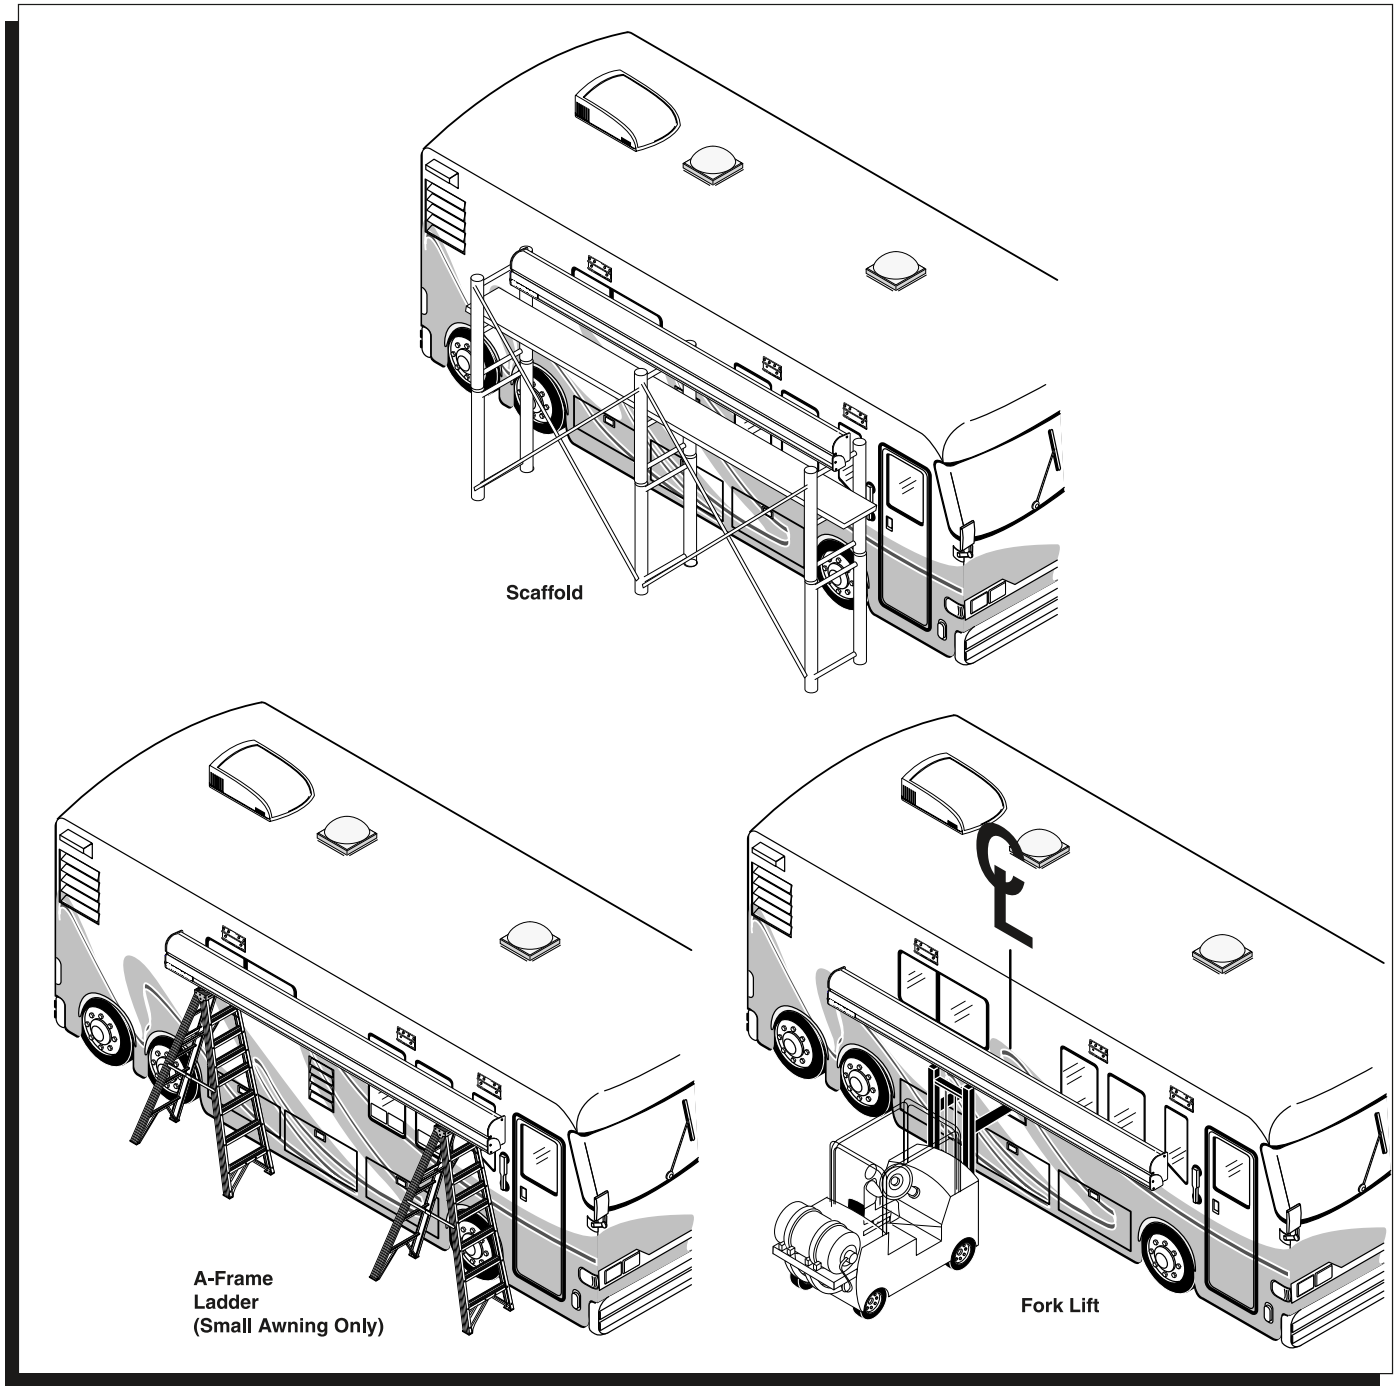

FIGURE 24
- a. While ladders are generally sufficient, you may use a scaffold or a forklift to raise awning into position (Fig. 24).
- b. If using forklift, lift from center line of awning (“CL” on Fig. 24) to maintain product balance while elevating.